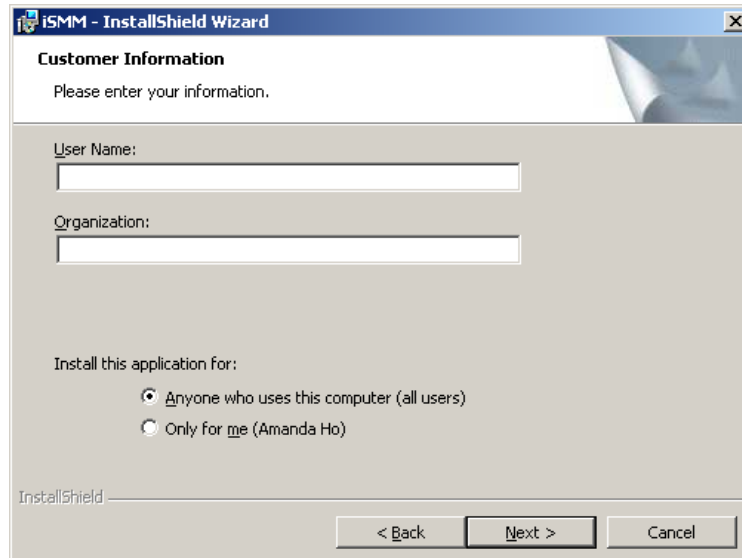

Figure 8-2: iSMM Installation Customer Information
Step 5: The customer information in **Figure 8-2** appears.